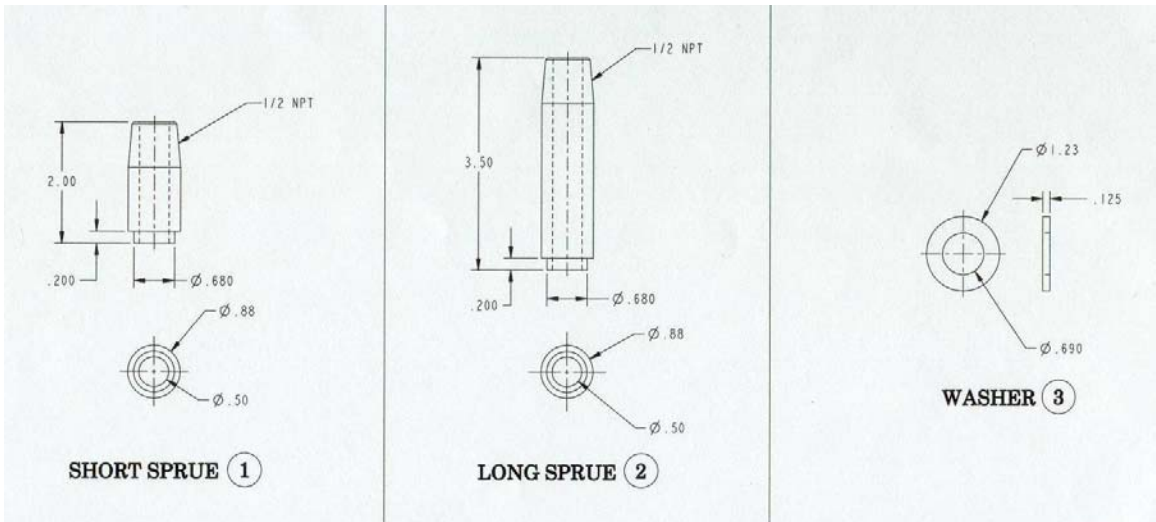

Figure 53- Sprue washers and extensions
- 6.49.3 Mount the G-11 sprue washers to the chill plates in the areas that were pre-cut to accommodate the epoxy feed sprues. Secure in place using **3M adhesive cement #CA40H**. Pre-apply by brushing, **3M Accelerator “Pronto Surface Activator”** to the chill plate that will mate with the washer. Apply the cement to the sprue washer and place on to the chill plate. Apply a small amount of silicone RTV 108 on the sides of the washers to secure them in place. Repeat for all sprue locations. [Figure 53- Sprue washers and extensions]
- 6.49.13 Install the long and short sprue extension to the sprue washers. This requires cutting the bag where the washers are located. The lead technician shall decide whether a long or short extension will be used. [Figure 53- Sprue washers and extensions]